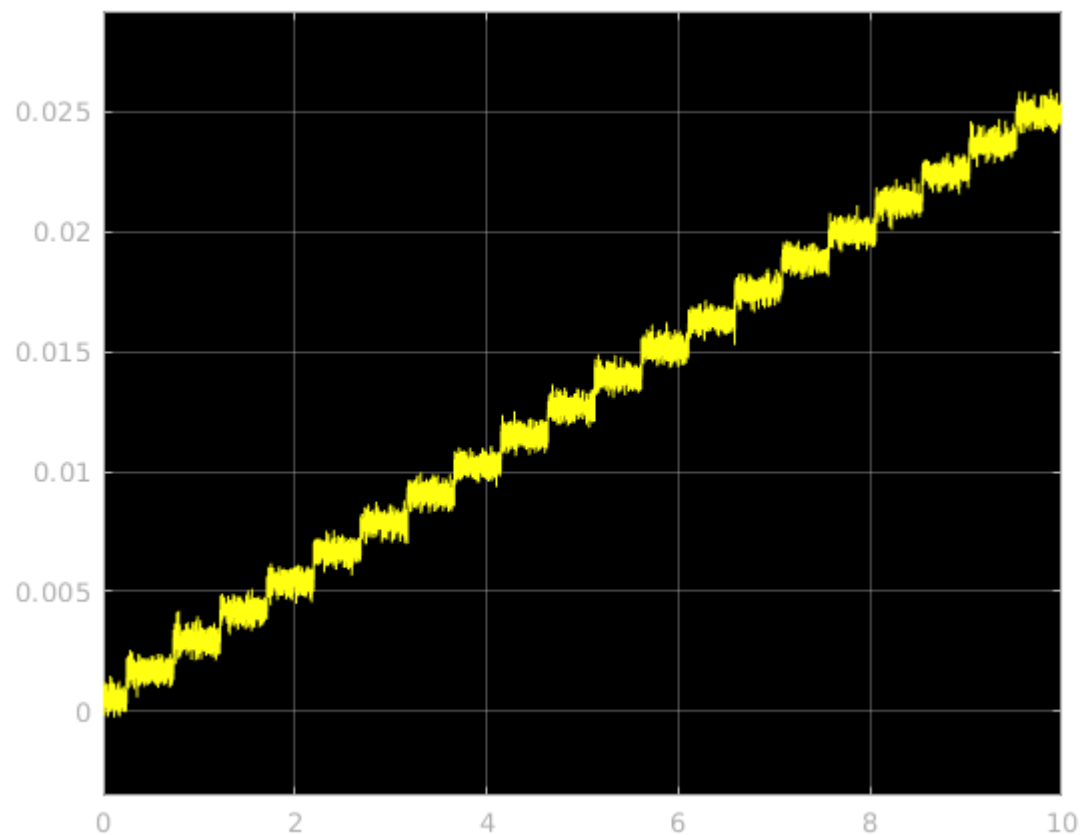

Figure 3: Ramp Signal Generated by a Virtual DAC
- In Figure 3 below, you will find a ramp input generated by a virtual DAC. Assume that this DAC is also  $\pm 10$  V. Find the DC offset and the number of bits of this DAC.